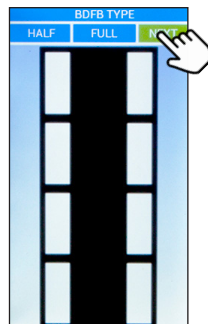

Figure 56. BDFB Type
- Step 5.** Select FULL for BDFB Type and then select NEXT (see Figure 56).